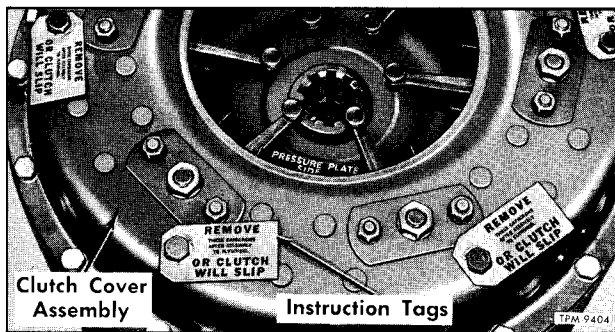

Figure 12—Clutch Cover Bolt Instruction Tags
2. Install pilot bearing (40) in flywheel (7), then install flywheel on crankshaft with holes for bolts (39) aligned. Place bearing retainer (3) at flywheel and install flywheel bolts. Tighten bolts evenly to 150 to 160 foot-pounds torque.
CAUTION: The two driven discs are not interchangeable. Slingers on discs can be referred to for identification if markings are not legible. Disc having slinger with smaller diameter is front (flywheel) disc. Rear disc assembly has a larger slinger and is marked "Pressure Plate Side" (fig. 12). Slinger on front disc (38) must be toward flywheel and the slinger on rear disc (37) must be toward release levers (32).
4. Place drive (center) plate (8) in position at front driven disc.
6. Place clutch cover assembly at flywheel then install cover bolts (35) with new lock washers. Tighten bolts evenly and firmly.
7. If new clutch cover and pressure plate assembly is being installed, remove the six bolts (cap screws) with tags (fig. 12). Removal of bolts is necessary to allow pressure springs to operate.
NOTE: Bolts used at tag locations (fig. 12) must be removed when installing original or rebuilt clutch cover assembly.